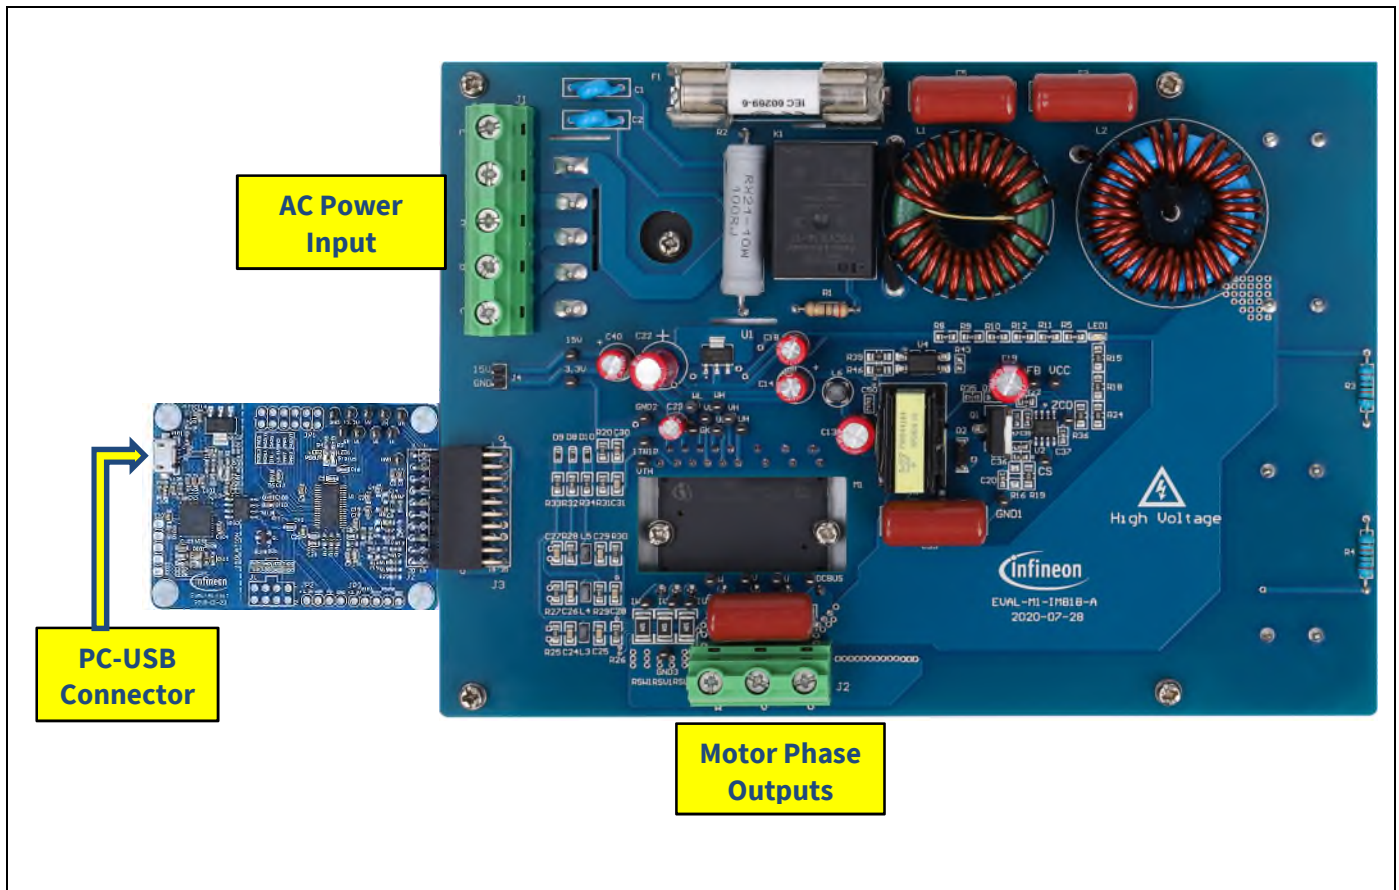

Figure 3 System connection example using EVAL-M1-IM818-A and EVAL-M1-101T
EVAL-M1-IM818-A evaluation board is a power system without control part. It has a M1 connector with control input. Figure 3 is example system setup with Infineon iMOTION™ control board EVAL-M1-101T. This is motor control engine (MCE) evaluation board. When users try to drive the power board with it. Its' user manual AN2018-01 for the details of the control board.
Figure 3 shows the system connection using EVAL-M1-IM818-A and control board (used control board EVAL-M1-101T for example).
2. Connect EVAL-M1-IM818-A's MADK M1 20-pin interface connector (J3) to control board (see figure 3).